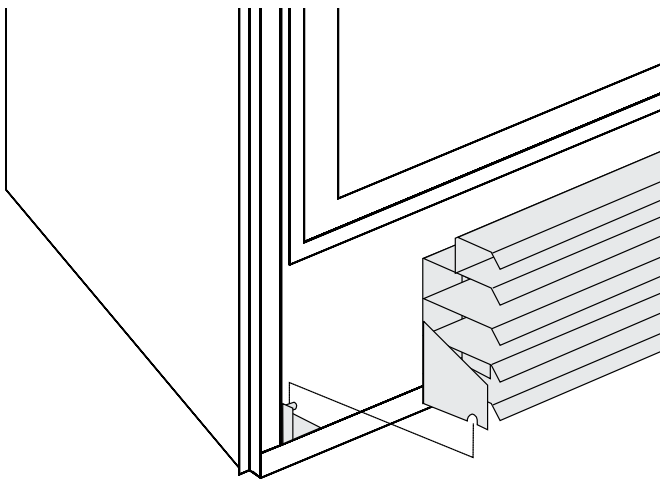

Figure 31b. *Installing the lower louvre assembly*
3. Install the lower louvre assembly. Line up the slots on each side of the bottom louvre with the hinge tabs at the base of the fireplace as shown in figure 31b.